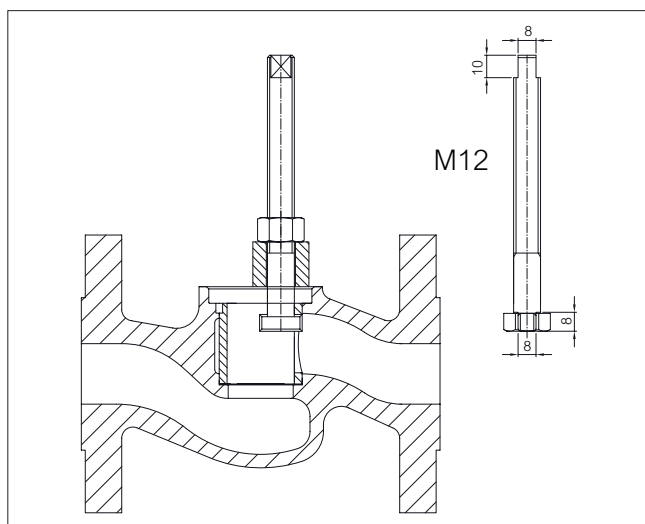

Fig. 6 Cage removal tool
- Remove the key (10) from the drive shaft (5) and gland nuts (18) with the optional spring package (15).
- Remove the bonnet nuts (17) and lift the bonnet (8) with the shaft and plug out of the body.
- Push the shaft until the thrust bearing (22) can be released from the groove of the shaft by lifting the support ring (23).
- Slide the support ring, sheet ring (70) and gland (9) away from the shaft.
- Remove the cage (7) using the removal tool as in Figure 6, where necessary.